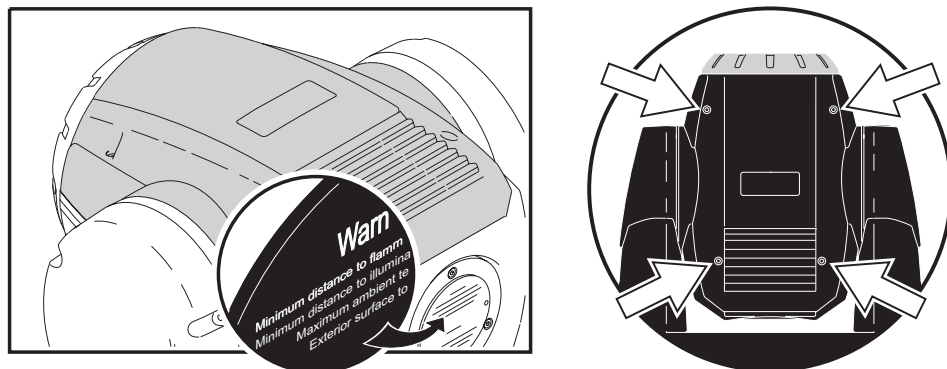

Figure 6: Identifying and removing the upper head cover
2. The top and bottom covers look the same, but the top cover can be identified by checking that the text on the back of the head is oriented correctly as illustrated in Figure 6. Remove the top cover using a flathead screwdriver to loosen the four quarter-turn screws.